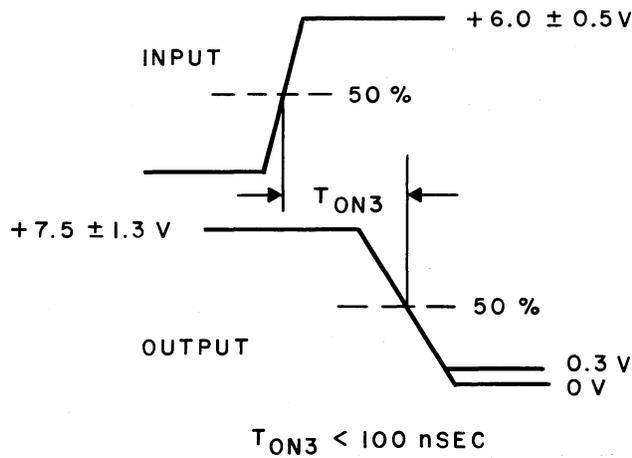

Fig. 37 (EIA Interface Test)
(3) Rotate the switch to position 10. The input-output wave forms shall be as specified in Fig. 37.